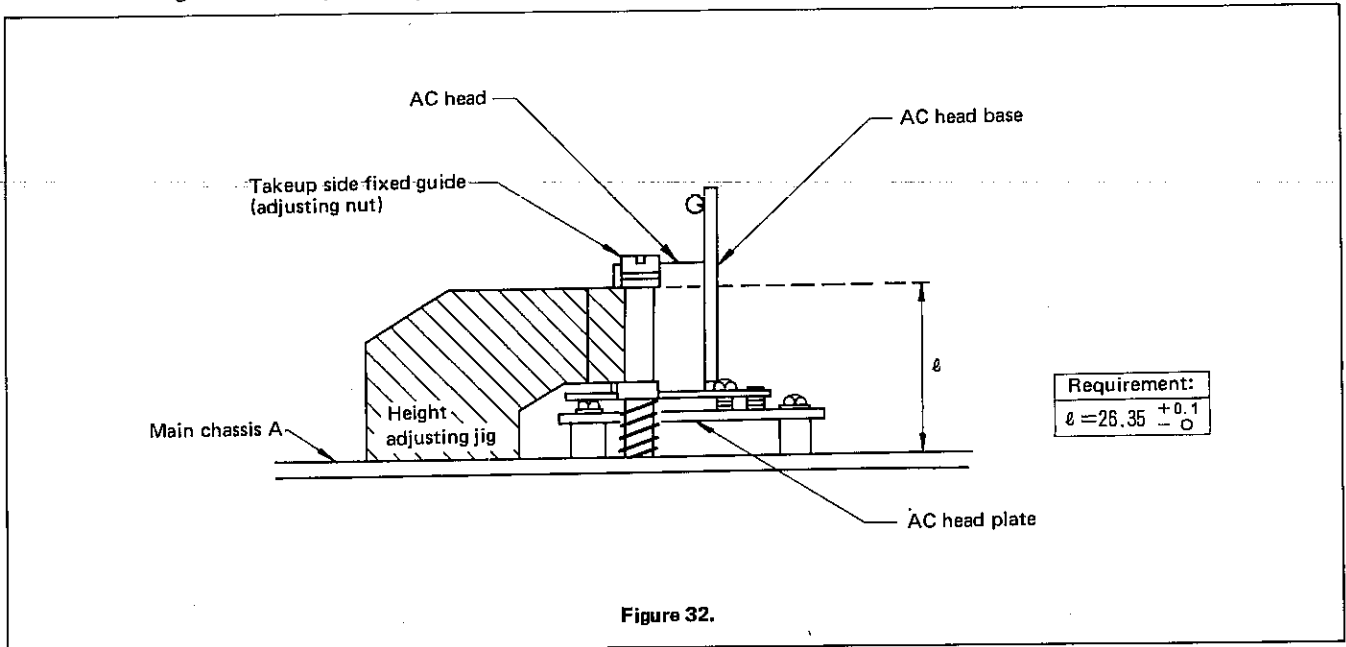

Figure 32.
1. Install the guide height adjusting jib on main chassis A (see Figure 32).